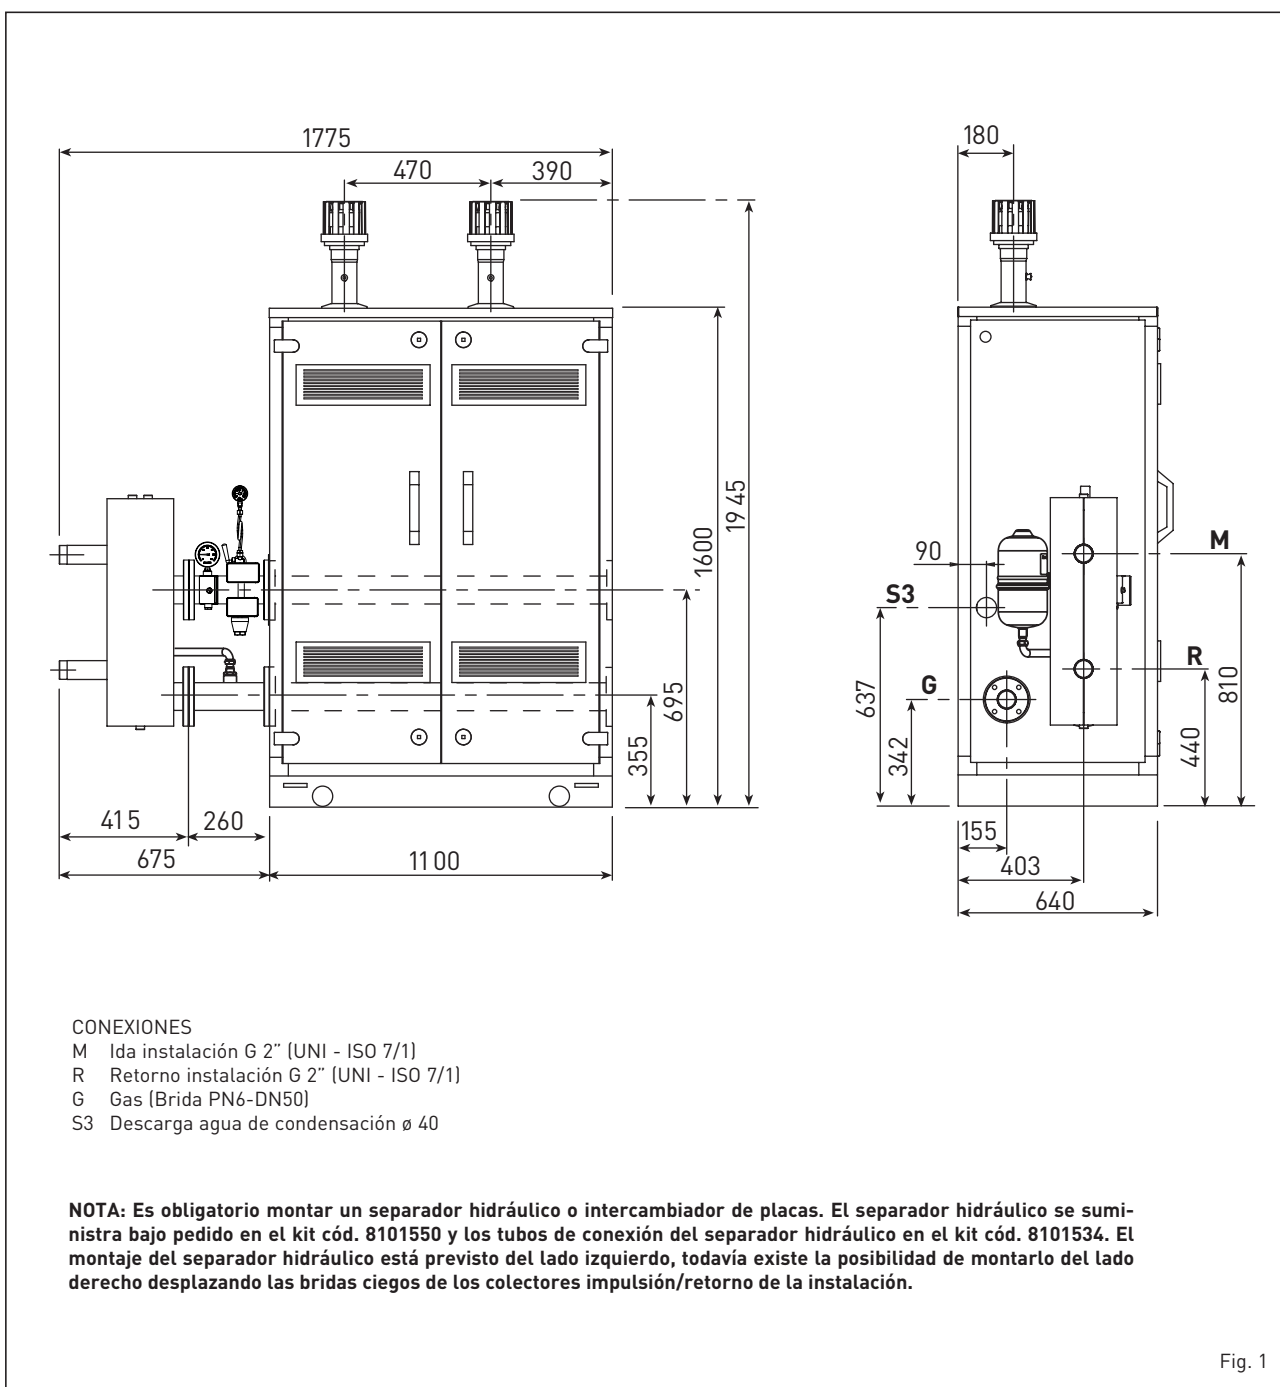

Fig. 1
1.2 DIMENSIONES MÓDULOS (fig. 1)